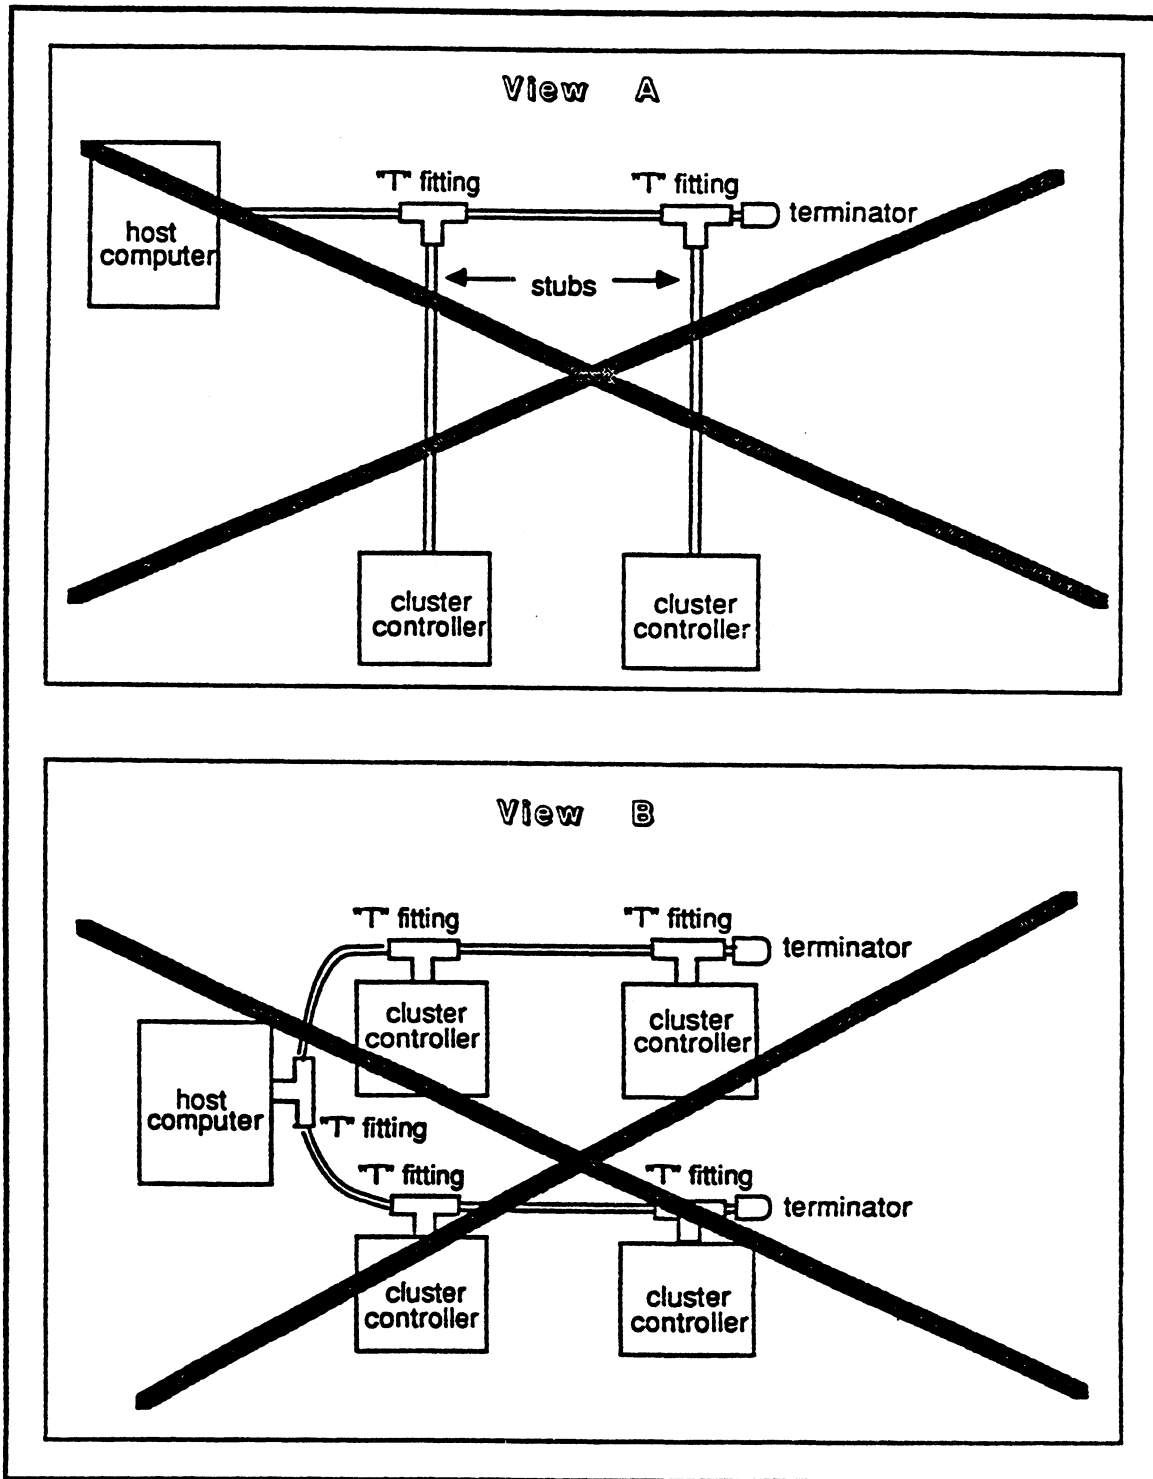
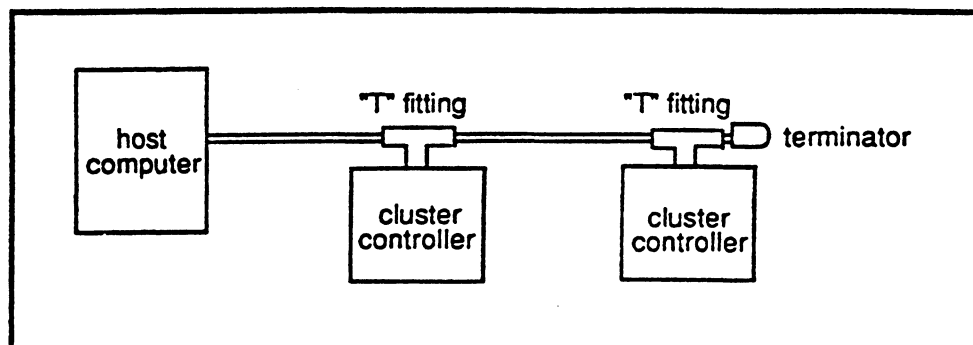

Figure 2-5. Incorrect Installation (Using Stubs)
Figure 2-6. Correct Installation (No Stubs Permitted)
- The coaxial line running from the host computer bulkhead must connect directly to the "T" fitting on each cluster controller. Attaching a cable between the "T" and the cluster controller (this is called a "stub"), is not allowed. In other words, you can't set up the system so that there is a main coaxial line from which short lengths of cable lead off to each of the cluster controllers. Figure 2-5, view A, illustrates an incorrect installation--one that makes use of this type of stubs. Figure 2-6 illustrates a correct installation.
- In keeping with the restriction against using stubs, you are not permitted to use a "T" fitting on the host computer bulkhead connector. Because the cable between the host adapter board and the bulkhead connector is part of the main coaxial line, a "T" fitting on the bulkhead results in making this cable a stub of the main line. Figure 2-5, view B, illustrates an incorrect installation that makes use of this type of stub. Figure 2-6 illustrates the correct installation.